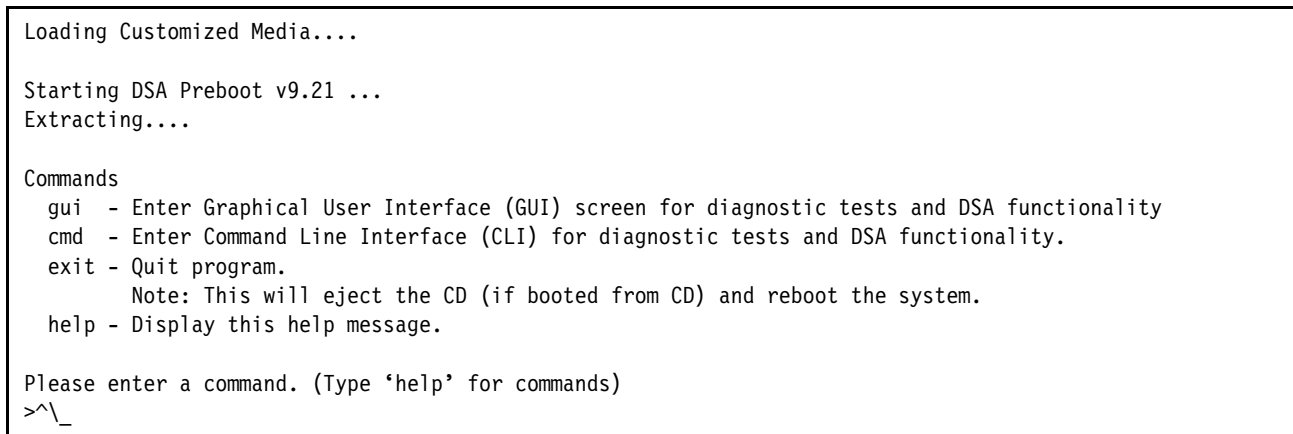

Figure 2-22 Preboot DSA user interface selection menu
4. The user interface selection menu opens, as shown in Figure 2-22. Enter `gui` and press Enter to proceed to the DSA GUI.